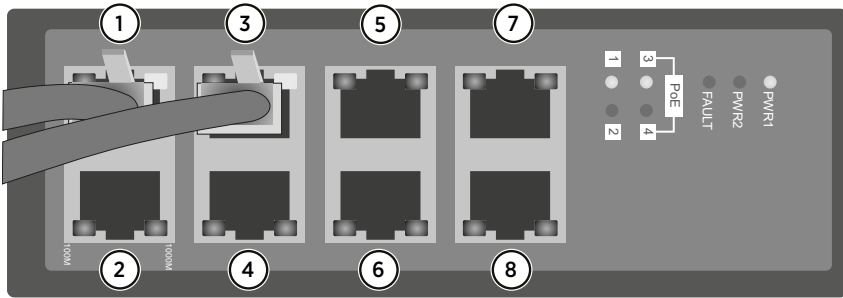
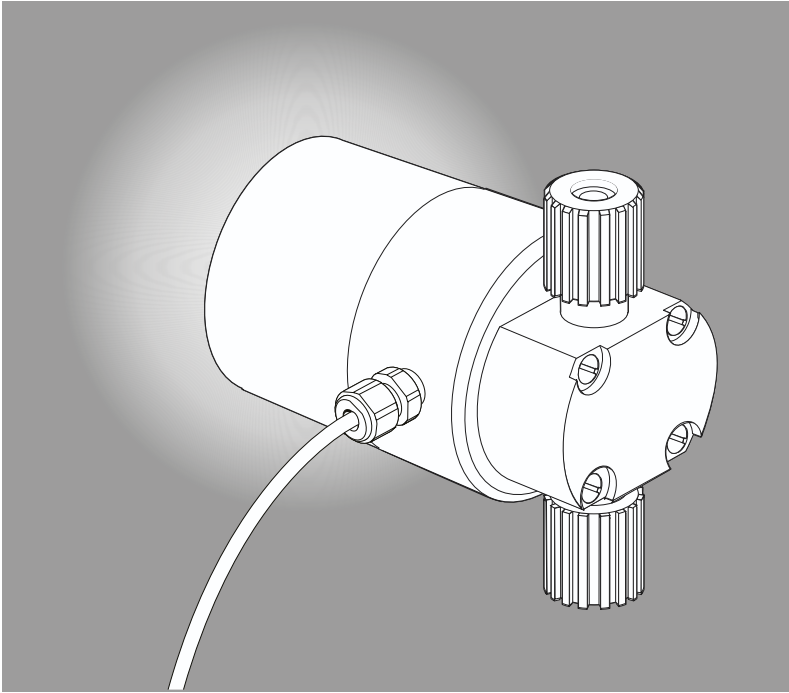

Figure 8 Example PoE switch indicator lights
Figure 9 Process indicator lights in refractometer
- The instrument receives power; there is a faint flashing light on the cover of the instrument as shown in Figure 9 \(page 15\), or the PoE switch indicates **power OK** as shown in Figure 8 \(page 14\).